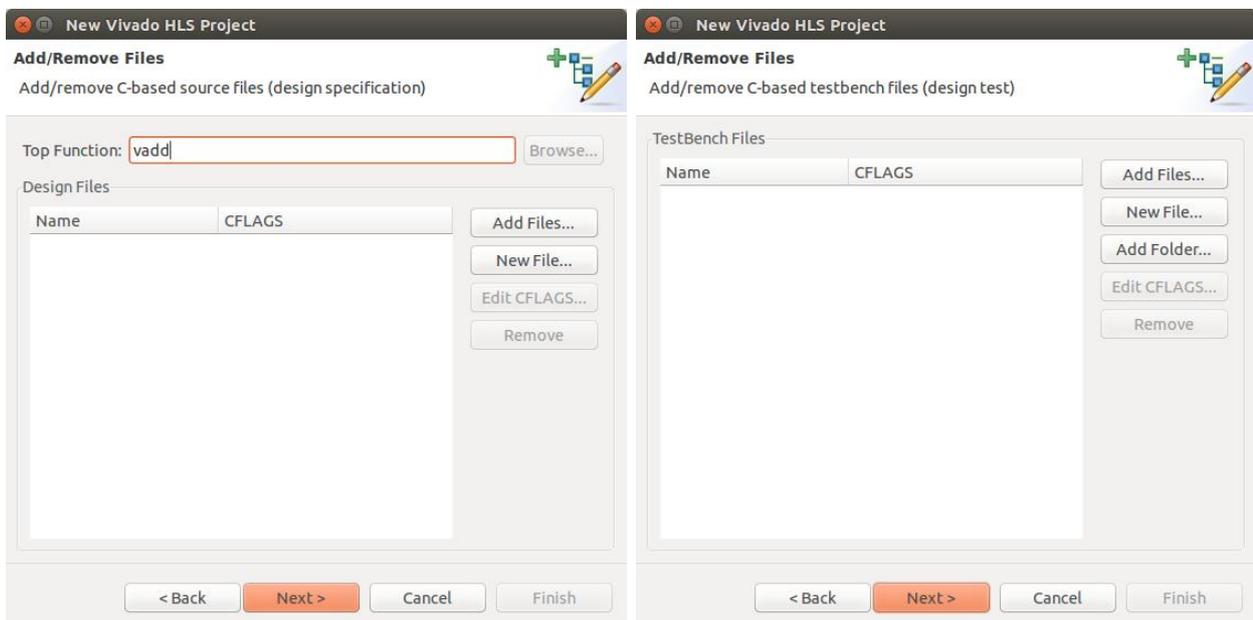

Figure 2: Identification of the *Top* function and addition of testbench file. We are not providing any testbench.
- step2: Now you are asked to provide a name for the top level function. This is the function that specifies the interface to the generated hardware. Name the top level function (`vadd`). This step is outlined in figure 2.
- step3: We are not adding a testbench file. See figure 2.